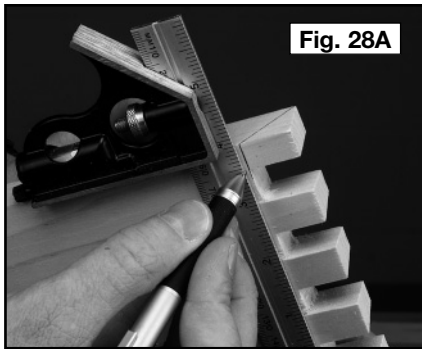

Fig. 28A
- Step 1** - On the inside surface, use a square and pencil to draw a line from the base of the pins to the edge where the miter will be cut (Fig. 28A).